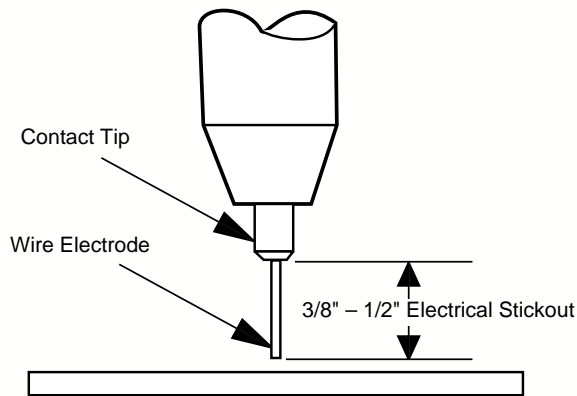

FIGURE B.6
13. Refer to Figure B-6. Cut the wire off 1/4" – 3/8" (6 – 10 mm) from the end of the tip. The SP 170-I is now ready to weld.